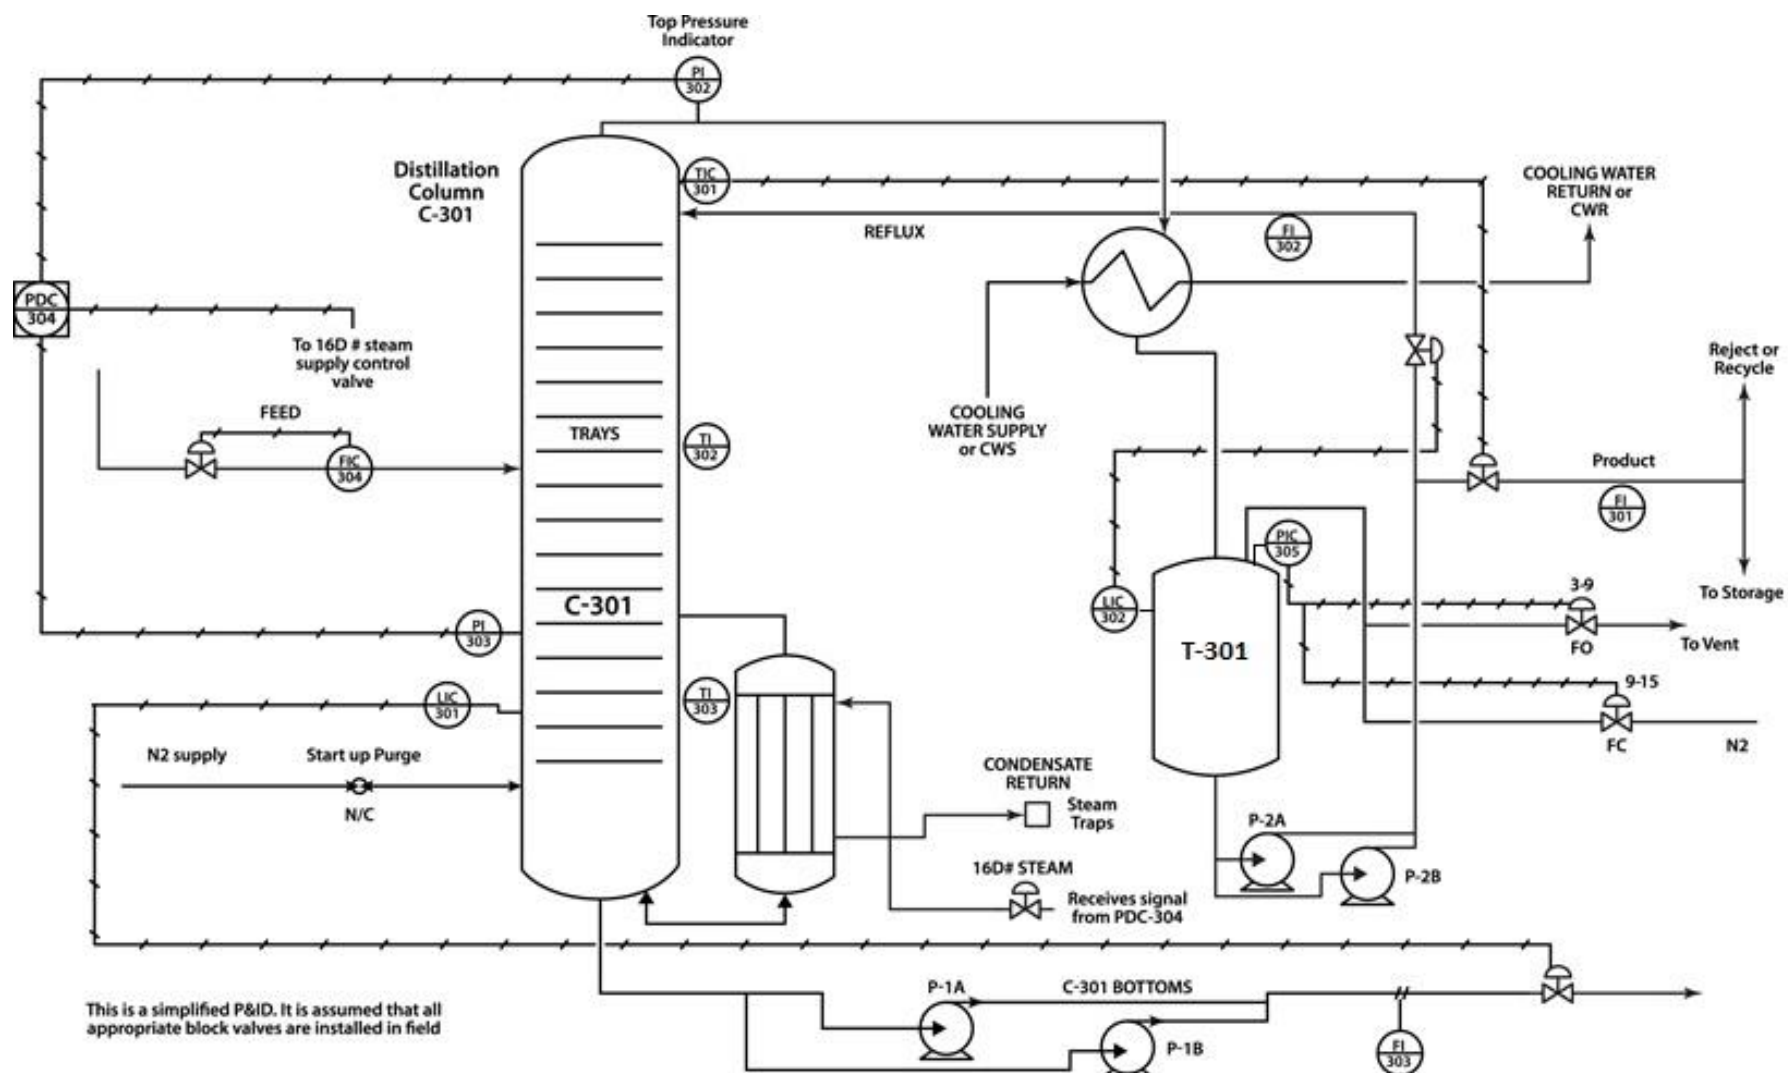

Figure 1. Distillation Column C-301 P&ID
The schematic for normal operating conditions is shown in Figure 1.
6. In the P&ID supplied in Figure 1, what instrument controls the base level on C-301?
Look at the P&ID drawing provided in Figure 1. Identify the probable cause(s) and explain. Be sure to read the issues John noted from the log book entries of the previous shift. Note what the different PVs are indicating. Which PVs have changed? Which ones have not changed? What is the likely cause of the increased pressure? What is the cause of the level, temperature, and flow changes?